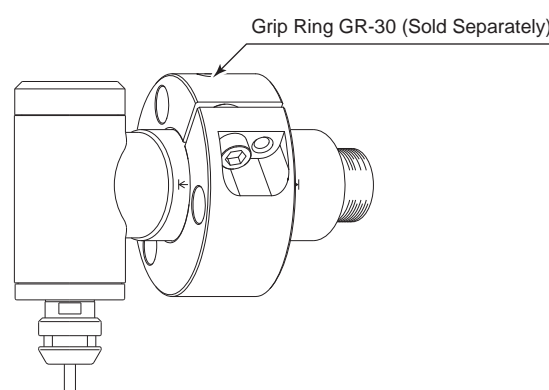

Fig. 9
* When installing the Spindle, it is recommended to use a "GR - 30 Grip Ring (sold separately (Fig. 9))". If the GR - 30 Grip Ring cannot be used due to the restriction of dimension and space, install as shown in ② below.